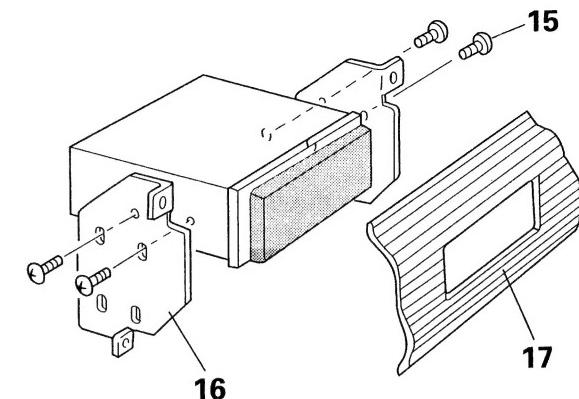
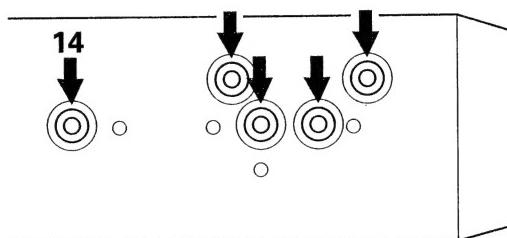

Fig. 11
Fig. 10
2. Fastening the unit to the factory radio mounting bracket. (Fig. 10) (Fig. 11)